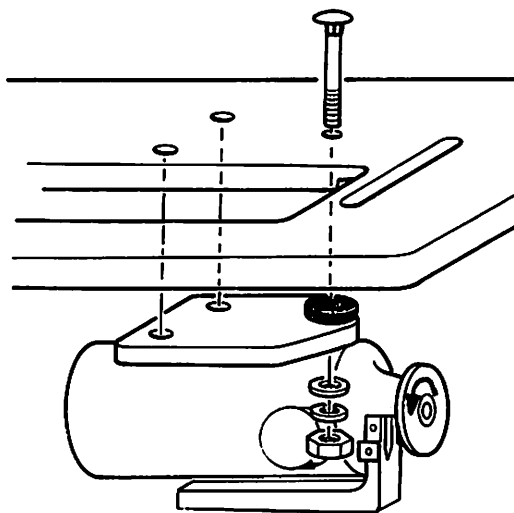

Fig. 2
- 3) The installation of the motor is same as any conventional lockstitching machine. (See Fig.2)